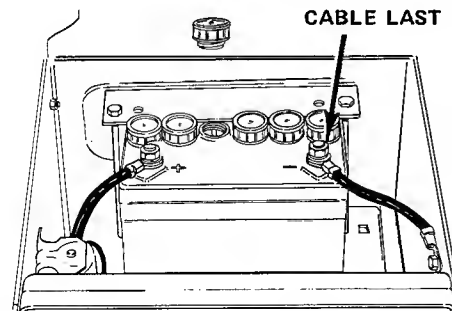

Figure 19. Clean Battery and Cables (100-Hour Care)
1. Engine will not start.	<ul style="list-style-type: none"> <li>A. Gear shift lever not in neutral-start position. Check safety interlock lights. Shift into neutral.</li> <li>B. PTO clutch lever not disengaged. Check safety interlock lights. Disengage fully.</li> <li>C. Out of fuel. Refill fuel tank.</li> <li>D. Engine flooded. Set engine control to SLOW and attempt to start.</li> <li>E. Circuit breaker tripped. Wait one minute for automatic reset. Replace if defective (see your dealer).</li> <li>F. Battery terminals require cleaning. See figure 19.</li> <li>G. Battery discharged or dead. Recharge or replace.</li> <li>H. Wiring loose or broken. Visually check wiring and replace broken or frayed wires. Tighten loose connections.</li> <li>I. Solenoid or starter motor faulty. Repair or replace.</li> <li>J. Safety interlock switch faulty. Replace if needed. (See your dealer).</li> <li>K. Spark plug or points faulty, fouled, or incorrectly gapped. Clean and gap or replace.</li> <li>L. Water in fuel. Drain fuel and refill with fresh fuel.</li> <li>M. Old stale gas. Drain fuel and replace with fresh fuel.</li> </ul>
A dead battery or one too weak to start the engine may not mean the battery needs to be replaced. It may, as an example, mean that the alternator is not charging the battery properly. If there is any doubt about the cause of the problem, see your dealer. If you need to replace the battery, proceed as shown in the battery cleaning procedure (figure 19).